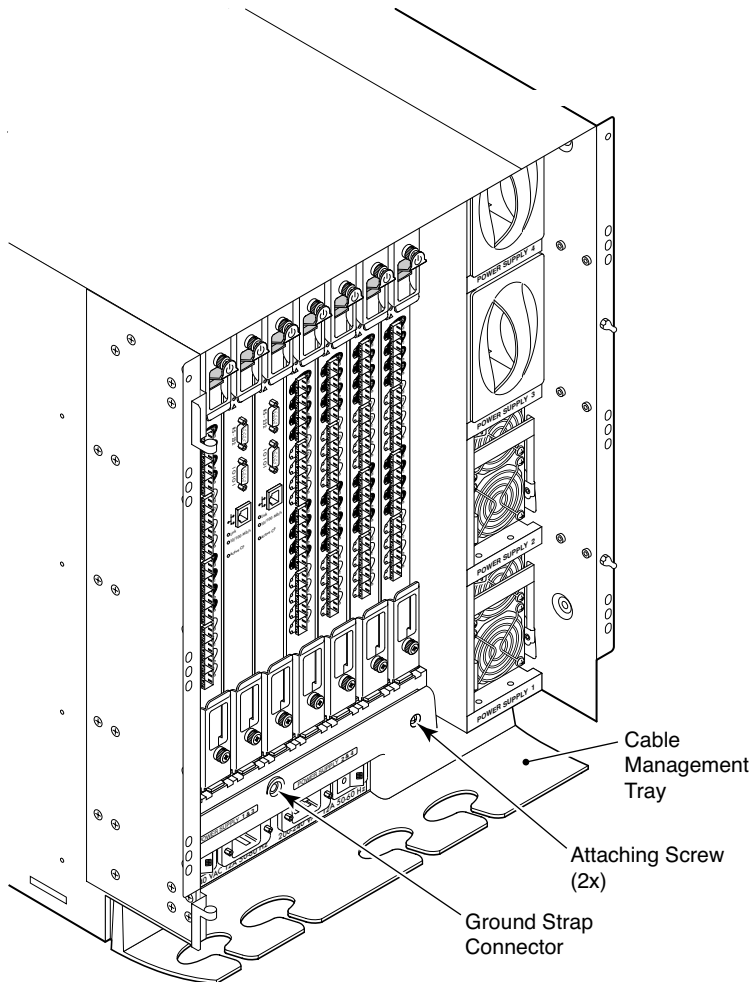

Figure 21 Cable management tray
- b. Unscrew the two screws holding the tray to the chassis and save for reuse (see Figure 21 for location of screws).
- a. Orient tray as displayed in Figure 21 and insert the two tabs beneath the tray into the two slots at the bottom of the AC panel; then, rotate the front of the tray upward until it locks into place.